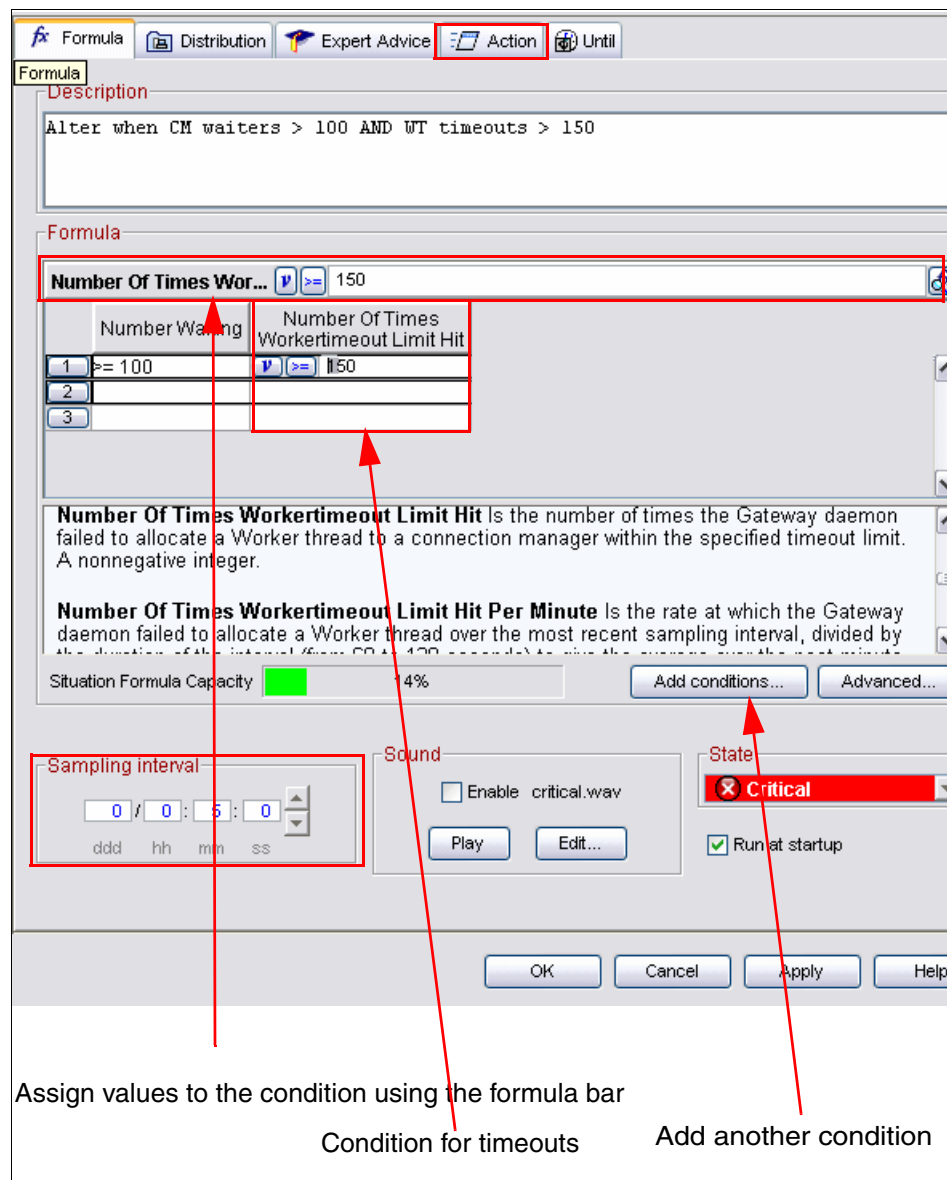

Figure 8-26 Adding conditions and assigning values
- The situation editor view will now appear showing the condition we had selected, as shown in Figure 8-26 on page 329. This can be used to add further conditions. We wanted two conditions with values assigned, so we added a condition for CICSTG Worker threads: Number Of Times Workertimout Limit Hit. We then assigned values using the formula bar:
9. We finished by pressing **OK**, and the situation was established (see Figure 8-26).